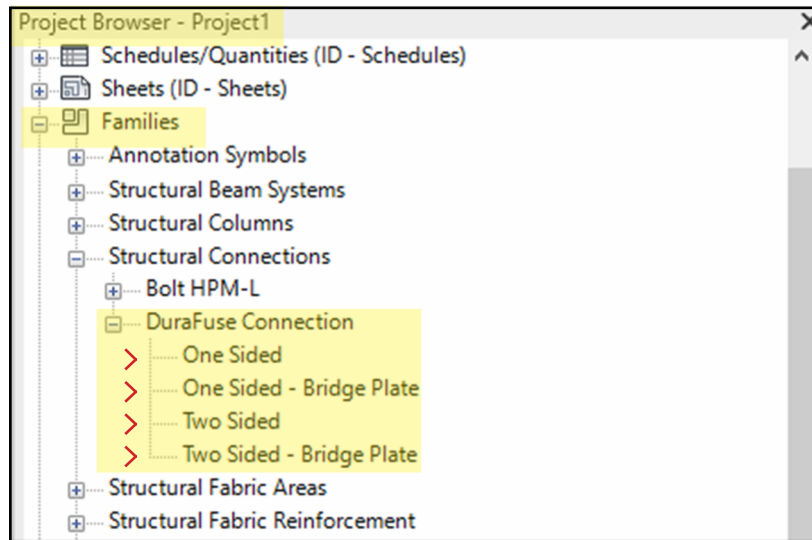

Figure 6-1. Location of DuraFuse Frames Revit Family
1. Access the family through the project browser under the **Families** and **Structural Connections** (see Figure 6-1). Click and drag the family type desired onto the screen.